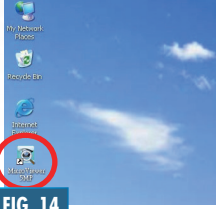

FIG. 14
1. Double click the [MicroViewer 5MP] icon on your desktop (Fig. 14).